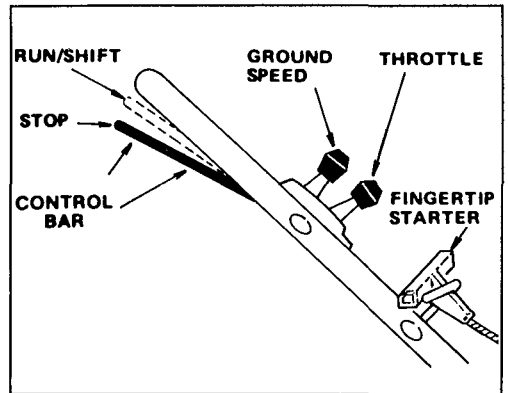

Figure 9
1. CONTROLS—Throttle, ground speed control (self-propelled model), control bar, and fingertip starter are on upper handle (Fig. 9).
and throttle to CHOKE. Lift control bar to RUN/SHIFT position (Fig. 9) and hold. Pull fingertip starter out until positive engagement results; then pull vigorously to start the engine. Regulate throttle (Fig. 9) as desired when engine starts.
4. **GROUND SPEED** (self-propelled model only) (Fig. 9)—Move ground speed control to desired setting. Number “1” is slow, “2” is medium, and “3” is a fast walking pace. Move ground speed control to “N” when using the mower for trimming and whenever leaving mower.
5. **WHEEL TRACTION OPERATION** (self-propelled model only) (Fig. 9)—Move control bar to the RUN/SHIFT position. Move ground speed control to desired setting and squeeze control bar against handle to drive.